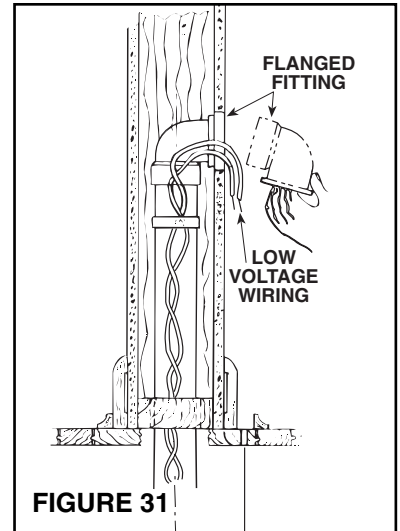

FIGURE 31
7. Apply cement to tube and install flanged wall fitting. Make sure fitting is well seated and sealed (Figure 31).